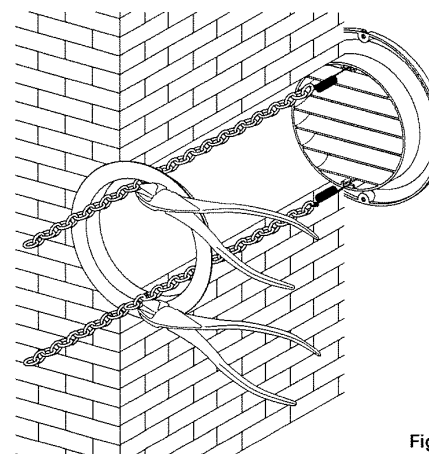

Fig. 12
- Using a pair of nippers, cut the excess chain links (fig. 12).